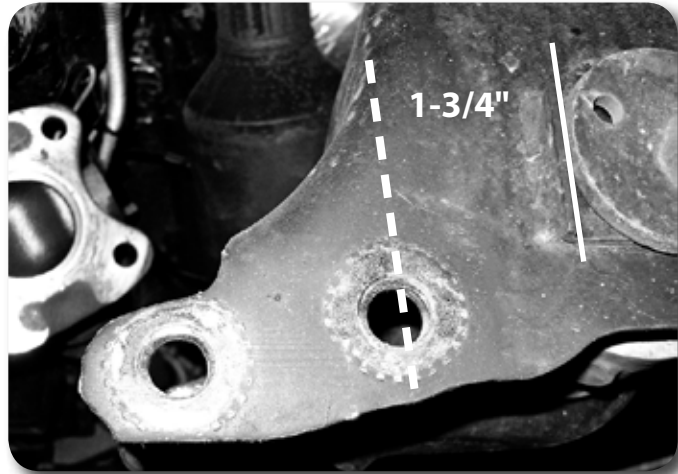

Figure. 11
31. The driver's side rear lower control arm pocket must be trimmed to provide clearance for the differential in its lowered position. Measure inward from the inside edge of the adjustment cam slot 1-3/4" and mark. Repeat on the opposite side of the pocket. Make a continuous line connecting the two marks over the top edge of the pocket. Trim the pocket on the line with a saw-zall or cut off wheel. Do not leave any sharp edges. Paint any exposed metal to prevent corrosion Figure 11.